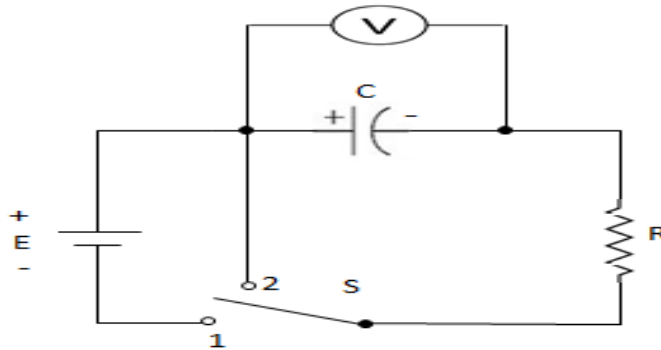

Fig.1: Experimental setup.
- Connect the circuit as shown in Fig.1 (Note: Your instructor will check your circuit).